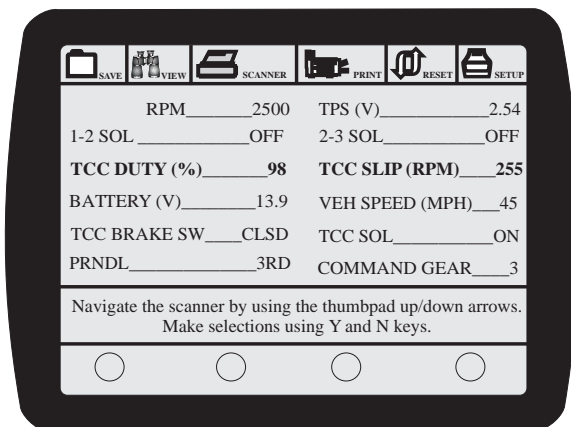

Figure 99
- Use your scan tool to monitor TCC Duty Cycle and TCC Slip on transmissions using PWM TCC systems. During initial apply of the converter clutch, duty cycle should be at 98% and slip should be less than 10, (Refer to Figures 99 and 100).
- The data list in Figure 99 is that of a 4L60E with a conventional PWM TCC system. The transmission is in 3rd with the shift lever in the D3 position and the PWM TCC solenoid at maximum duty cycle and the TCC Enable Solenoid is on, yet the TCC slip is 255 rpm.